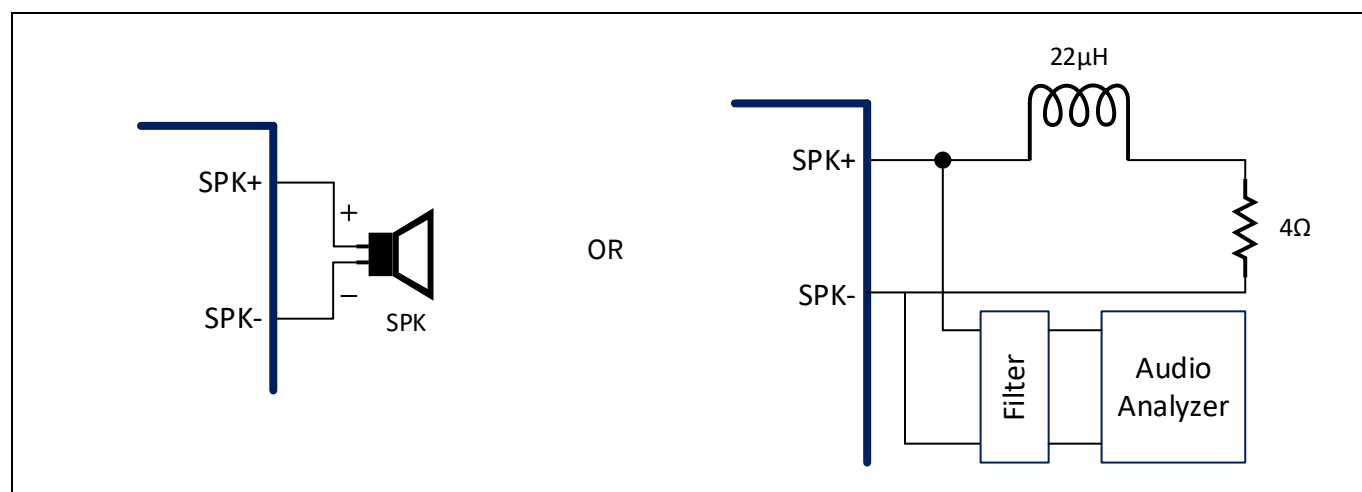

Figure 1 Setup for “speaker test” or “datasheet spec test”
- Loudspeaker and speaker wires, as shown in Figure 1
In addition, for datasheet spec testing, as shown in Figure 1: